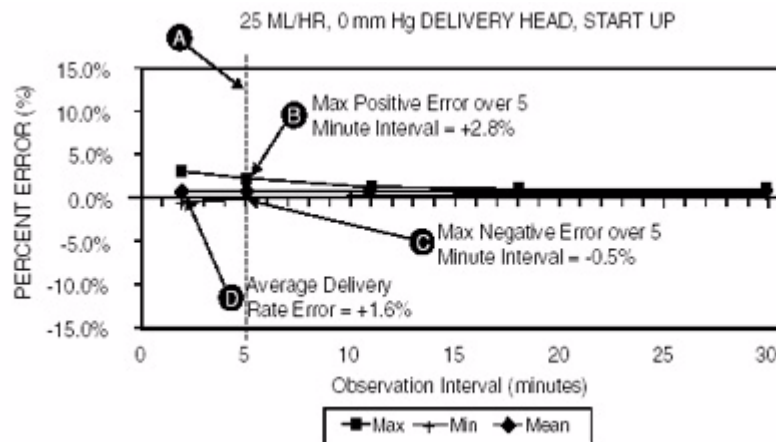

Figure 155: Sample Trumpet Curve
On the trumpet curve graph sample shown in Figure 155, find the 5 minute interval (A) at the horizontal axis and read the corresponding points (B) and (C) on the vertical axis. The values are approximately +2.8% and -0.5%.